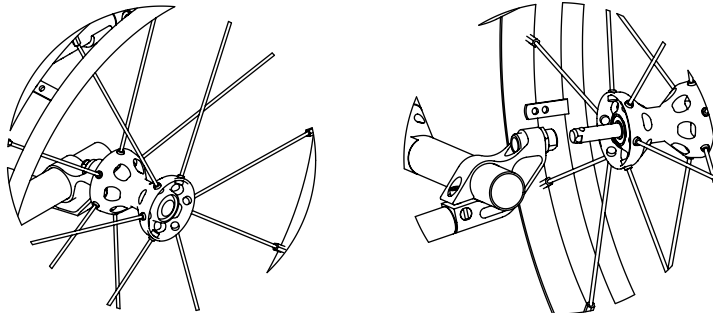

Figure 17.1 Quick release wheel attachment.
- 3 Keep the button depressed as the axle is slid through the axle receiver on the frame. (See Figure 17.1)